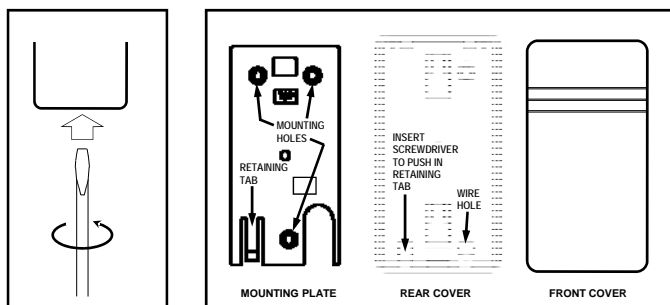

Fig. 1.
1. Open the GEM-CO-MOD case by inserting a small screwdriver into the slot at the bottom of the Rear Cover and twist (see Fig. 1).